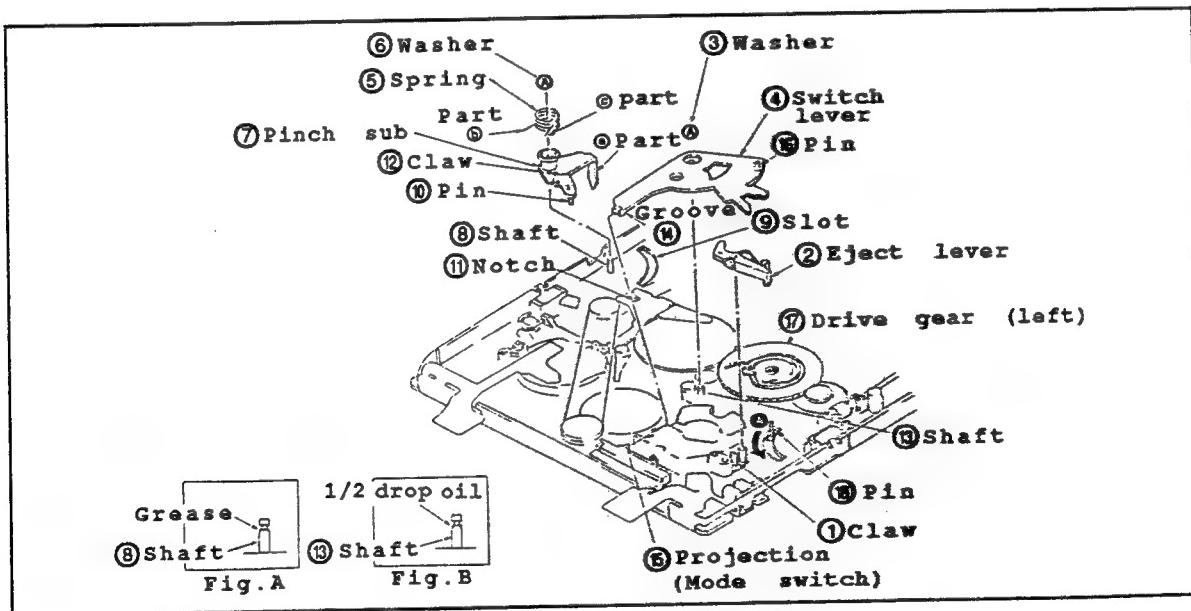

Fig.II-20
• Disassembling (Fig.II-20)
- (1) Set unloading state.
- (2) In the same procedures in "3-3", dismount the capstan motor.
- (3) To dismount the eject lever ②, unhook the claw ①.
- (4) To detach the switch lever ④, remove the washer ③.
- (5) Remove the spring ⑤.
- (6) To detach the pinch sub arm ⑦, remove the washer ⑥.
• Reassembling (Fig.II-20)
- (1) Apply the grease onto the shaft ⑧. (Fig.A)
- (2) Assemble the pinch sub arm ⑦ while inserting the ⑨ part into the slot ⑩.
- (3) Secure it with the washer ⑥.
- (4) Hook the ⑪ part of spring ⑤ between the claw ⑫ and the chassis side while hooking ⑬ part to the claw ⑫.
- (5) Apply 1/2 drop of oil to the shaft ⑬. (Fig.B)
- (6) Assemble the switch lever ④ to the shaft ⑬ while aligning the groove ⑭ with the projection ⑮ of mode switch. At this time, insert the pin ⑯ to the outside groove ⑰ of drive gear (left) ⑱.
- (7) Secure it with a washer ③.
- (8) Attach the eject lever ② and hook the claw ①.
- (9) In the same procedures in "3-3", mount the capstan motor.
*Note: When installing the switch lever ④ to the shaft ⑬, set the pin ⑯ of tension regulator arm to the inside of switch lever ④. (within the extent of ⑩ indicated by an arrow.)